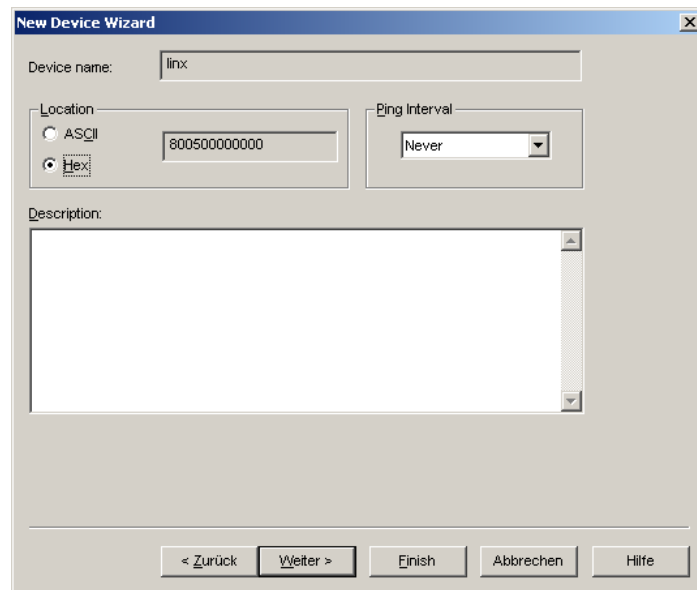

Figure 96: Leave defaults for Location.
5. The following dialog shown in Figure 96 appears, click **Next**.